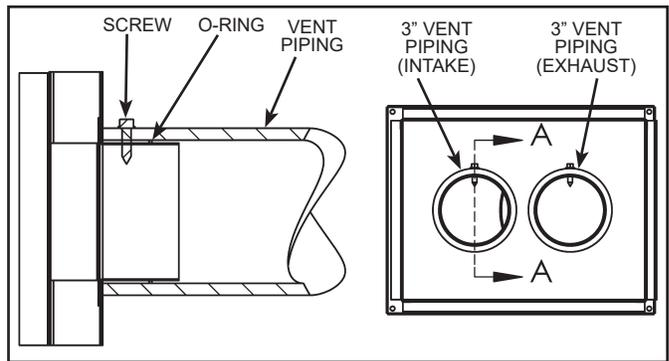

Figure 26.
2. Thoroughly inspect the vent termination for any damage (see Figure 26).
4. Drill $7/64$ " pilot holes for a #8 screw (see Figure 26). Take care not to damage the O-ring.
5. Secure the vent piping to the air box with screws (see Figure 26).